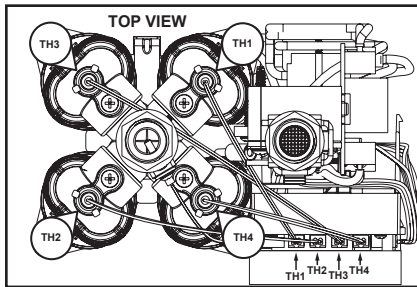

Figure 35 - Thermistor wire configuration.
**4** Unplug all the sensors and the triac(s) connectors from the control board. Use a cable tie or other method to secure the wires out of the way of the control board and chambers, to avoid possible damage. See Figure 35.